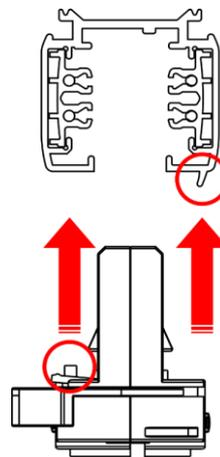

Fig. 05
- 03) Align the flange of the **track adapter (01)** with the track, as shown in Fig. 05.